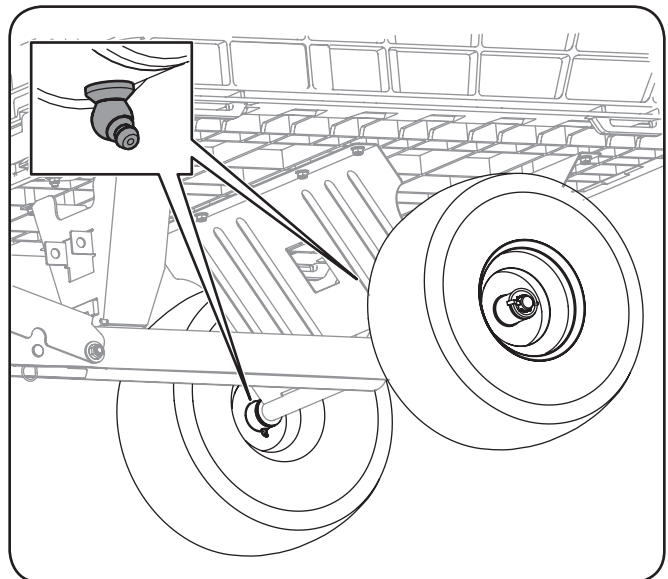

Figure 6-3
2. Grease the wheels using the grease fitting on the wheels annually or as needed. See Figure 6-3.